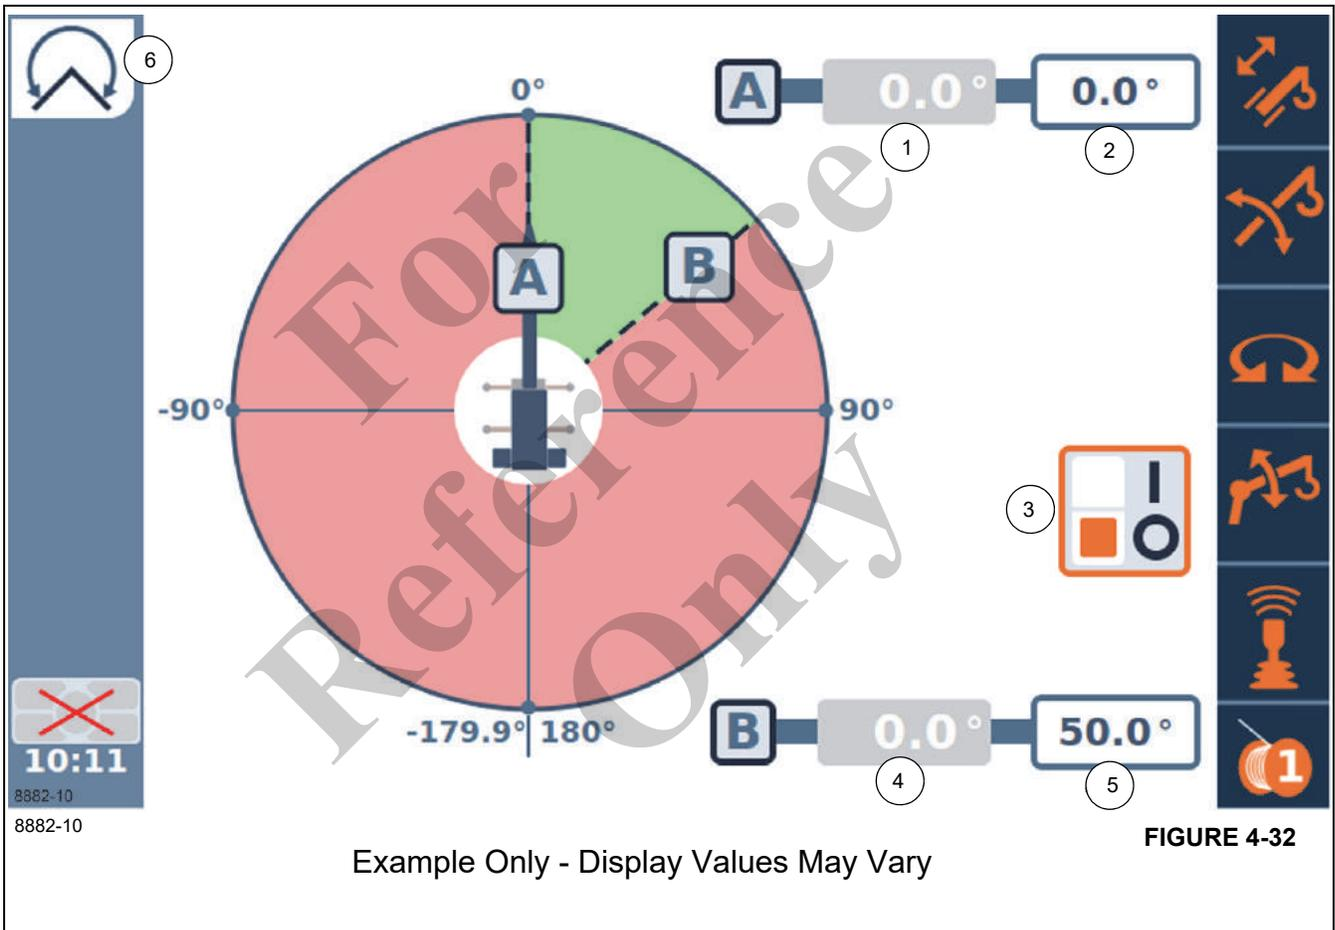
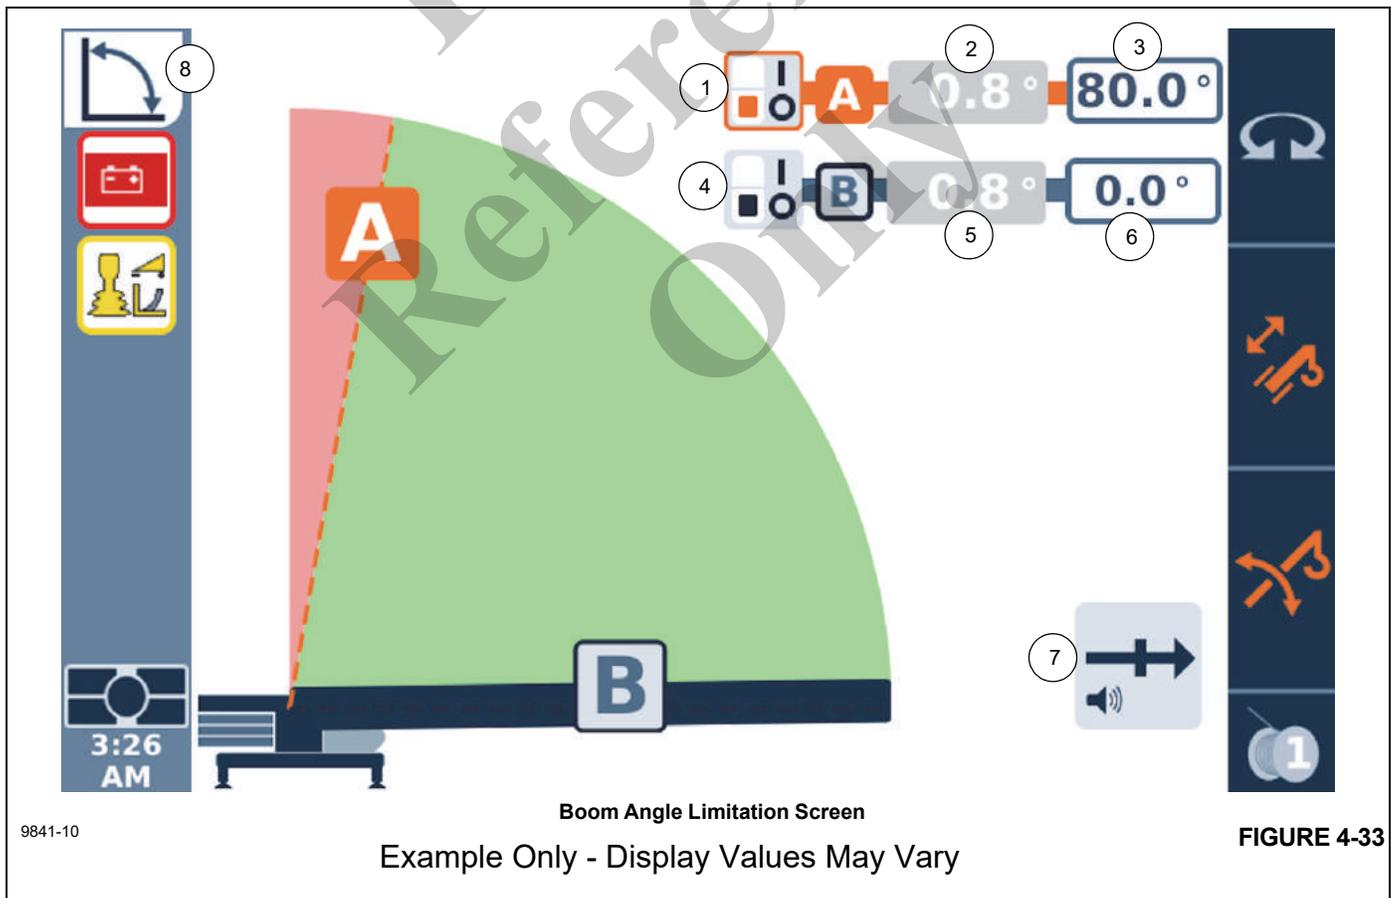
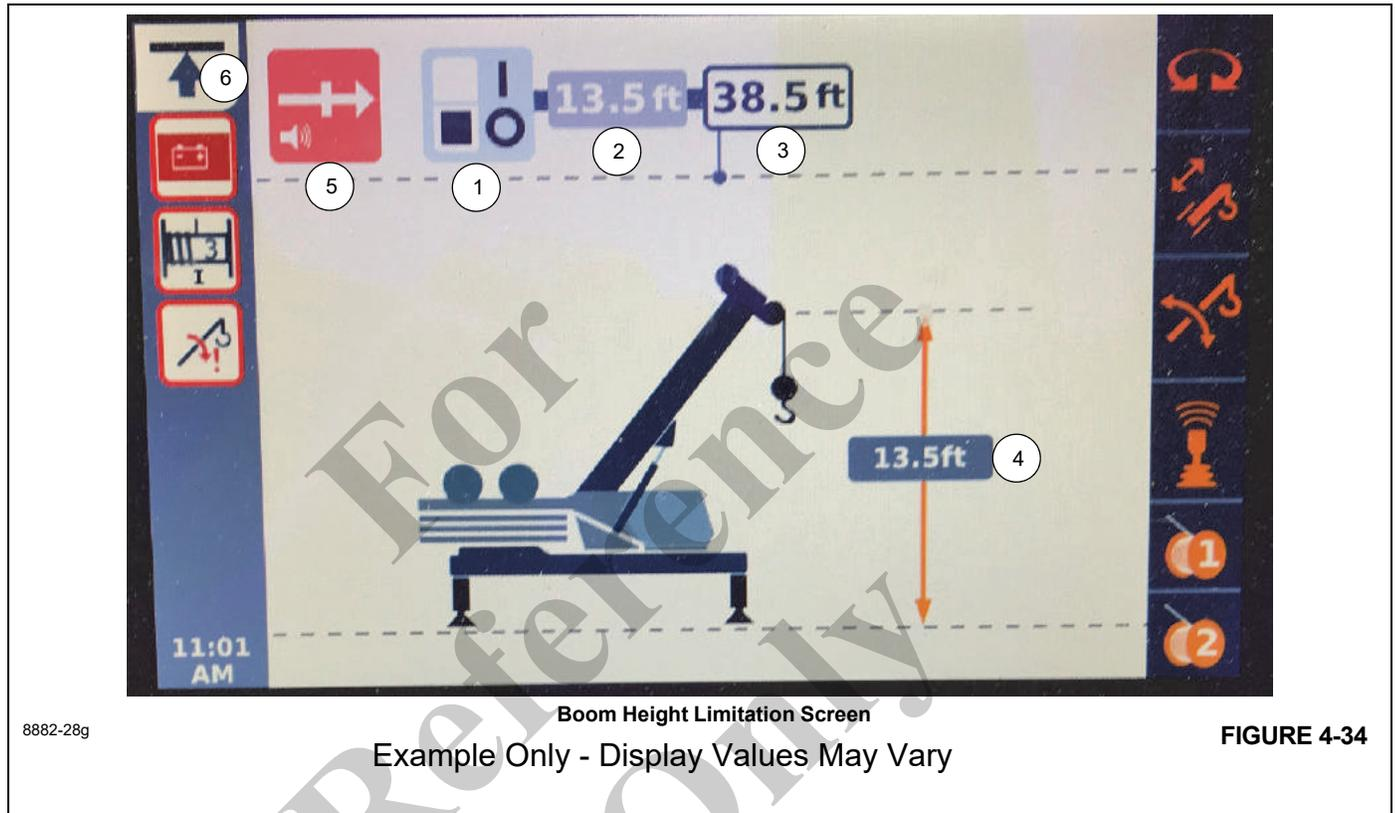

FIGURE 4-32
FIGURE 4-33
FIGURE 4-34
For each of the limitations, the limitation must first be ENABLED within the WRL feature of the Crane Control System software. This is done with particular screens and buttons on the Operating Display Module (ODM). Once the limitation is enabled using Item (3) in Figure 4-32, then it can be DEFINED (in terms of specific angles or locations). This is also done with the screen and buttons on the ODM, as well as as possibly operating the boom to define particular locations.
If the Swing Angle Limitation is selected from the menu of WRL Limitations, then the Swing Angle Limitation Screen will be shown (6), (Figure 4-32).
Using the Left Arrow and Right Arrow Function keys (4), (Figure 4-21) on the Navigation Control Pad or the Jog Dial (5), (Figure 4-22) changes the object highlighted on the screen. As the arrow keys are pressed, the highlight will move between the objects, with the color orange typically meaning that the object is selected and can be affected by subsequent actions. In Figure 4-32, the orange Icon (Item 3) symbol is selected since it has the orange color highlighting.
3. Select the Swing Angle Menu Screen (2), (Figure 4-30). **NOTE:** The Swing Angle Screen (6), (Figure 4-32) Icon is shown on the top left side of the ODM screen.
4. Enable the limitation by using the Jog Dial (5), (Figure 4-22) or the Arrow Keys (4), (Figure 4-21) and move to the Enable / Disable Switch ON/OFF (3), (Figure 4-32). **NOTE:** The Switch (3), (Figure 4-32) is the Swing Enable / Disable Switch ON/OFF and is a toggle switch. Click OK (5), (Figure 4-21), or the Jog Dial (5), (Figure 4-22) to toggle the switch.
5. Move the Boom to the desired position. This position will indicate the swing angle current value Limitation A (1) swing (left) position.
6. Use the Jog Dial (5), (Figure 4-22) or the Arrow Keys (4), (Figure 4-21) and move to the Limitation Value (1), (Figure 4-32). Click OK to set the current value Limitation A (1), (Figure 4-32) position.
**NOTE:** The current value in Limitation A (1) will automatically populate the value for Limitation A (2).
7. Repeat Steps 4 thru 6 to set the Limitation B (4), (Figure 4-32) Swing (Right) Direction value.
3. Select the Swing Angle Menu Screen (11), (Figure 4-24). **NOTE:** You know you are on the Swing Angle Screen by looking at the Icon on the top left side of the ODM screen. The Icon (6), (Figure 4-32) at the top of the screen should show the Swing Angle Limitation Icon.
4. Enable the limitation by using the Jog Dial (5), (Figure 4-22) or the Arrow Keys (4), (Figure 4-21) and move to the Enable / Disable Switch ON/OFF (3), (Figure 4-32). **NOTE:** The Switch (3), (Figure 4-32) is the Enable / Disable Switch ON/OFF and is a toggle switch. Click OK (5), (Figure 4-21), or the Jog Dial (5), (Figure 4-22) to toggle the switch.
5. Use the Jog Dial (5), (Figure 4-22), to move and select the Swing Angle Left Limitation A (2), (Figure 4-32) to set the Left Angle Limitation value. Use OK to begin changing the value shown. Enter a value by using the Jog Dial (5), (Figure 4-22) or the upper and lower arrow keys (4), (Figure 4-21) to change the value (in tenths) to the desired swing angle value. Use the OK Button (5), (Figure 4-21) to finish entering the values.
**NOTE:** The current value in Limitation A (1) will automatically populate in the value for Limitation A (2).
6. Repeat Steps 4 thru 6 to set the Limitation B (5), (Figure 4-32) Swing Left Direction value.
**NOTE:** Turning off the power to the control system also disables the WRL Limitations but it will remember the set points (2) and (5) as shown in (Figure 4-32).
**NOTE:** The Swing Angle Screen (6), (Figure 4-32) Icon is shown on the top left side of the ODM screen.
2. Use the Left Arrow and/or Right Arrow Function keys (4), (Figure 4-21) to highlight the Switch Enable/Disable Symbol (3), (Figure 4-32). Enable is "I" and Disable is "O".
If the Boom Angle Limitation Menu is selected from the Main Menu of WRL Limitations (3), (Figure 4-30), then the Boom Angle Limitation Screen will be shown (Figure 4-33).
Using the Left Arrow and Right Arrow Function keys on the Navigation Control Pad (4), (Figure 4-21) or the Jog Dial (5), (Figure 4-22) changes the Icon highlighted on the screen. As the arrow keys are pressed, the highlight will move between the Icons, with the color orange typically meaning that the Icon is selected and can be affected by subsequent actions. In Figure 4-33, you will see that the highlighted Icon in orange for the Enable/Disable Switch Symbol for the maximum boom angle is selected since it has the orange color highlighting. Table 4-2 lists the WRL Limitation Screen Symbols.
3. Select the Boom Angle Limitation Menu Screen(3), (Figure 4-30). **NOTE:** The Boom Up Limitation Screen (8), (Figure 4-33) Icon is shown on the top left side of the ODM screen.
move and select the Enable/Disable Switch Symbol ON/Off (1), (Figure 4-33). **NOTE:** The Switch (1), (Figure 4-33) is a toggle switch. Click OK (5), (Figure 4-21), or the Jog Dial (5), (Figure 4-22) to enable the switch.
5. Move the Boom to the desired position. This position will indicate the boom angle current value A (2) position.
6. Use the Jog Dial (5), (Figure 4-22) or the Arrow Keys (4), (Figure 4-21) and move to the Limitation Value (2), (Figure 4-33). Click OK to set the current value Limitation A (2), (Figure 4-33) position.
**NOTE:** The current value in Limitation A (2) will automatically populate in the value for Limitation A (3).
3. Select the Boom Angle Limitation Menu (3), (Figure 4-30). **NOTE:** The Boom Angle Limitation Icon (8), (Figure 4-33) is shown on the top left side of the ODM screen.
4. Enable the Lower Boom Limitation Angle by using the Jog Dial (5), (Figure 4-22), or the Arrow Keys (4), (Figure 4-21) to move and select the Enable/Disable Switch Symbol ON/Off (4), (Figure 4-33). **NOTE:** The Switch (4), (Figure 4-33) is a toggle switch. Click OK (5), (Figure 4-21), or the Jog Dial (5), (Figure 4-22) to enable the switch.
5. Move the Boom to the desired position. This position will indicate the boom angle current value B (5) position.
6. Use the Jog Dial (5), (Figure 4-22), or the Arrow Keys (4), (Figure 4-21) and move to the Limitation Value (5), (Figure 4-33). Click OK to set the current value Lower Boom Angle Limitation B (5), (Figure 4-33) position.
**NOTE:** The current lower boom angle Limitation B (5) will automatically populate in the value for Limitation B (6).
- Select the Boom Angle Limitation Menu Screen (3), (Figure 4-30). **NOTE:** The Boom Angle Limitation Icon (8), (Figure 4-33) is shown on the top left side of the ODM screen.